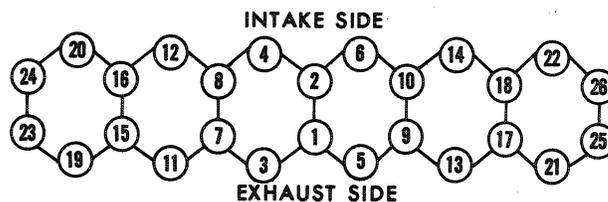

Figure 20
5. Tighten 1/2 in. cylinder head bolts in the sequence shown in Figure 20. Tighten in three steps:
Tighten 9/16 in. cylinder head bolts (new) in the sequence shown in Figure 20. Tighten in two steps: